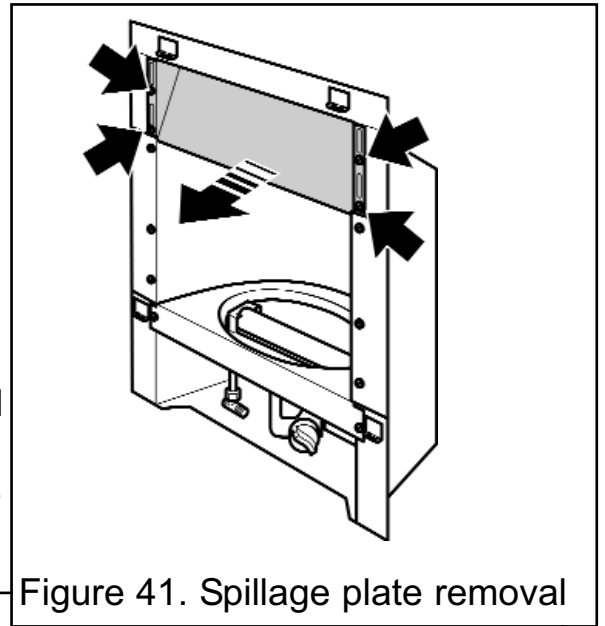

Figure 41. Spillage plate removal
3. Detach the spillage plate from the hotbox by removing the four screws (See figure 41). Place the spillage plate in a safe place away from the work area.